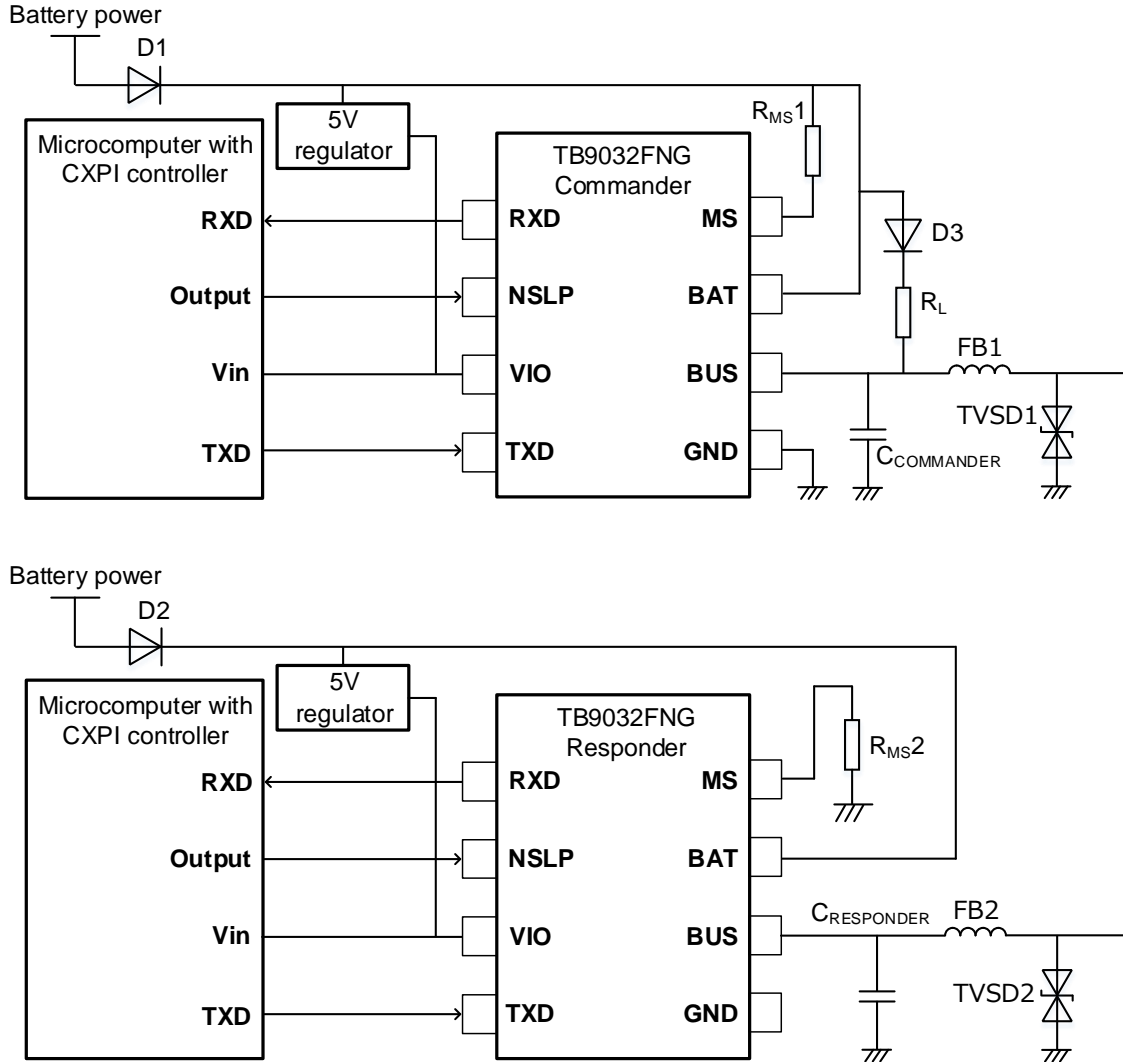

Figure 7.1 Application circuit example
•Figure 7.1 shows an application circuit example.